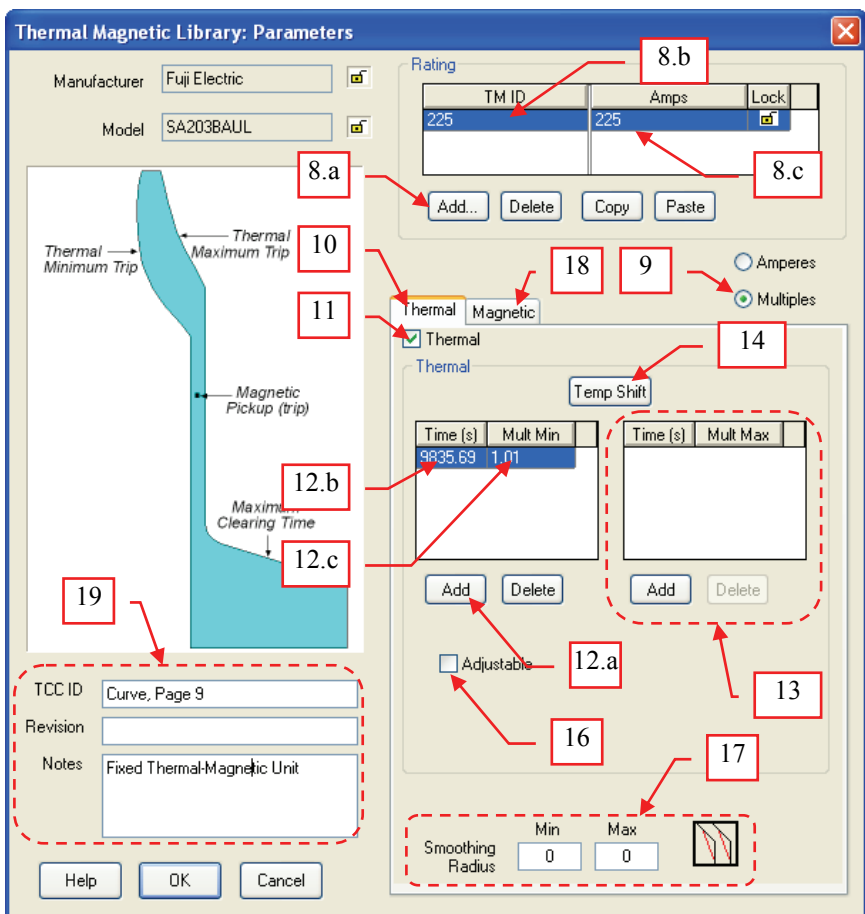
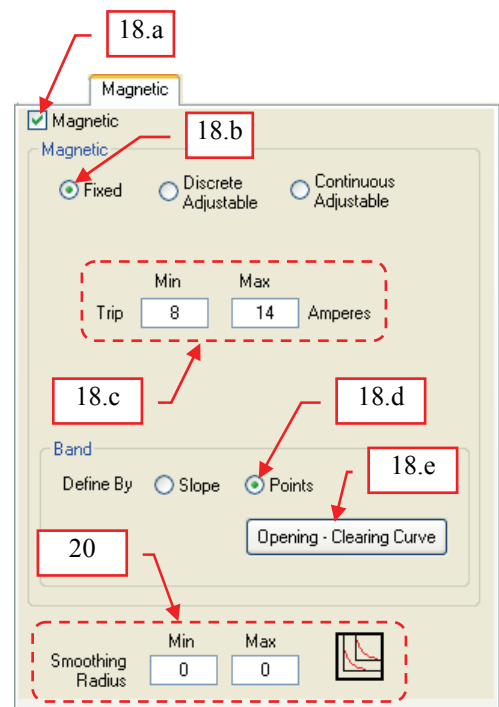

Fig. 19
Fig. 21
8. Guided by the information in Table 1 and Fig. 1a, page 1; In the “Rating” frame of the “Thermal Magnetic Library: Parameters” dialog box, do the following (see Fig. 19):
9. Between the radio buttons “Amperes” and “Multiples”, select “Multiples” since the characteristic curve is expressed in multiple of rated current (see Fig. 19)
16. Leave the “Adjustable” check box unchecked since the thermal element is fixed. See Fig. 19
17. Leave the Smoothing Radius “Min” and “Max” to zero because these have no effect on the curves since the thermal curves were defined by points. See Fig. 19
18. Click the “Magnetic” tab (see Fig. 19). The “Magnetic” page will be displayed as shown in Fig. 21. Do the following on this page:
20. Leave the Smoothing Radius “Min” and “Max” to zero because these have no effect on the curves since the Band curves were defined by points. See Fig. 21.
21. On the lower-left portion of the “Thermal Magnetic Library: Parameters” dialog box, enter the following information on the appropriate textbox (see Fig. 19):